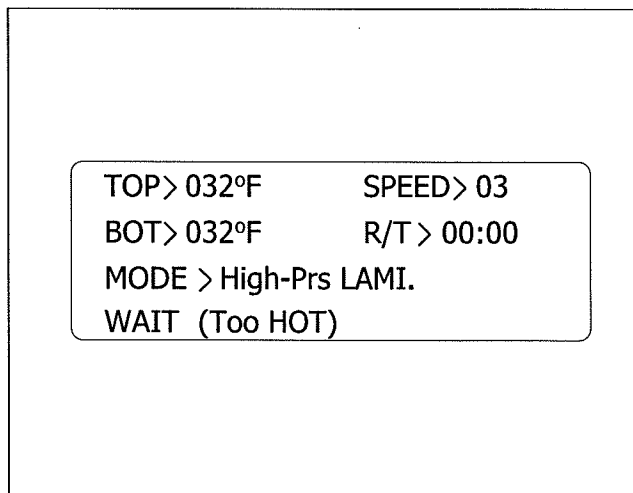

Fig. 8
(Figure 8) Illuminates when the laminator is plugged in and **POWER ON/ OFF** is in the on, (I), position. Displays settings for top heater, bottom heater, speed, run time, mode and ready/ wait indicator.